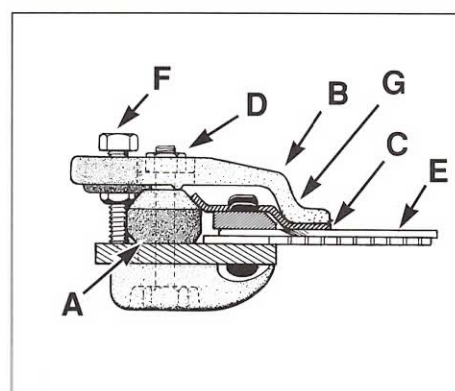

Fig. 5-7
5. Oil the area between the hold-down clips and wear plates (C, Fig. 5-7).